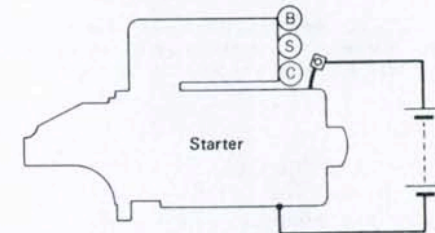

Fig. 83—Disconnect lead at C terminal of magnetic switch, then connect battery positive terminal directly to starter to check motor operation.
62. To check starter and switch operation, disconnect lead from C terminal (Fig. 83) of magnetic switch and connect battery positive terminal directly to starter C lead. Connect battery negative terminal to starter frame. If motor runs smoothly, magnetic switch is defective; if not, motor is defective. Magnetic switch pull-in coil and hold-in coil should operate properly with 1/2 of rated voltage (six volts) applied to switch terminals. Renew magnetic switch as a unit if defective.